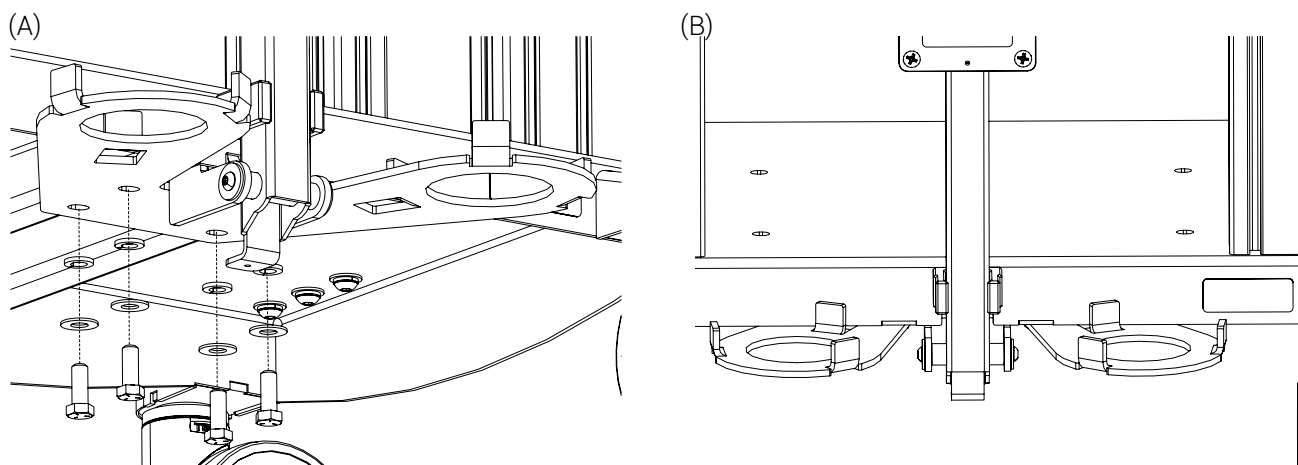

Figure 13: Installation of the bottom plate of the gas cylinder mounting bracket
1. Ensure to have applied all four (4) brakes on the transport cart.
2. Align the screw holes of the bottom plate of the mounting bracket and UPS shelf, then tighten the four (4) flat head hex screws 3/8-16 X 2 in., four (4) washers and four (4) Nylon-insert locknut 3/8-16, using two (2) keys 9/16 in. (Figure 13).